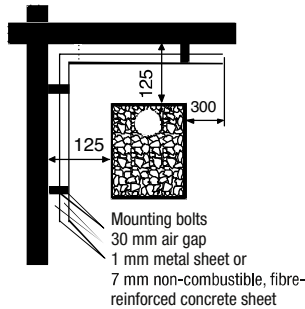

Figure 3.
Double-layer protection can be made two sheets mentioned in item 2 leaving a minimum of 30 mm air gap between the wall and sheet. (Figure 3).